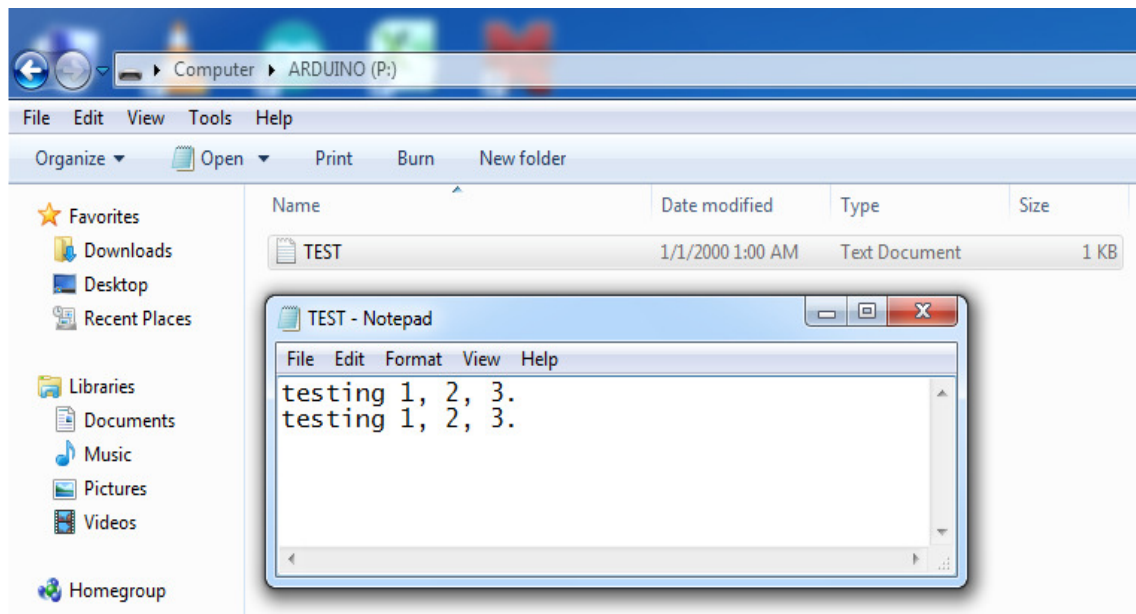

Figure 20.
15. Insert SD card into the SD card reader of your computer then open data in SD card will be found “**test.txt file**” then double click “**test.txt file**” will be shown data is wrote into SD card as figure 20.